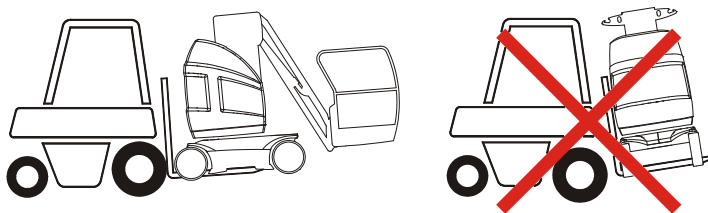

Figure 4-11. Lifting the Machine Using a Fork Truck
- Fork lift as shown in Figure 4-11.